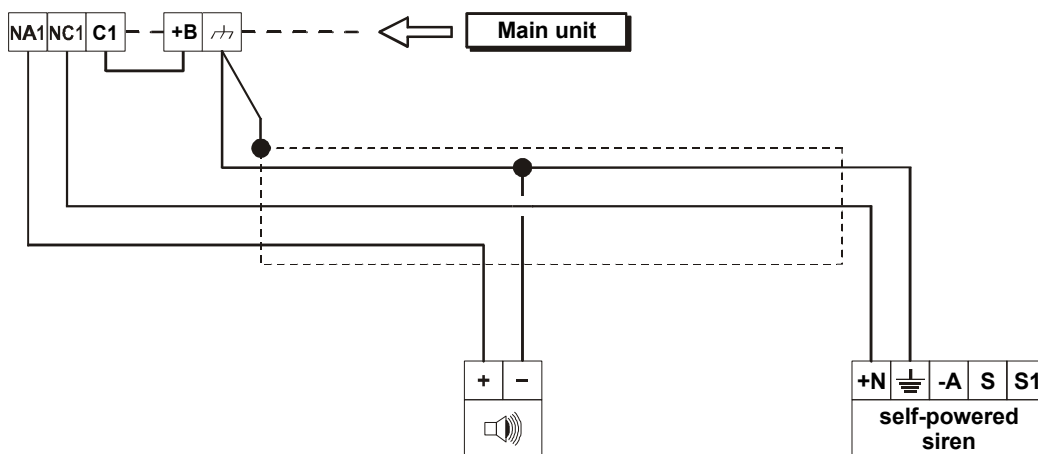

Figure 18 Connection of self-powered siren and indoor siren
- **Intrinsic security** devices (e.g. Self-powered sirens—see fig. 18) will be activated by voltage failure on the alarm terminal.
- **Positive alarm line** devices (e.g. Indoor sirens—see fig. 18) will be activated by positive (12 V) on the alarm terminal.